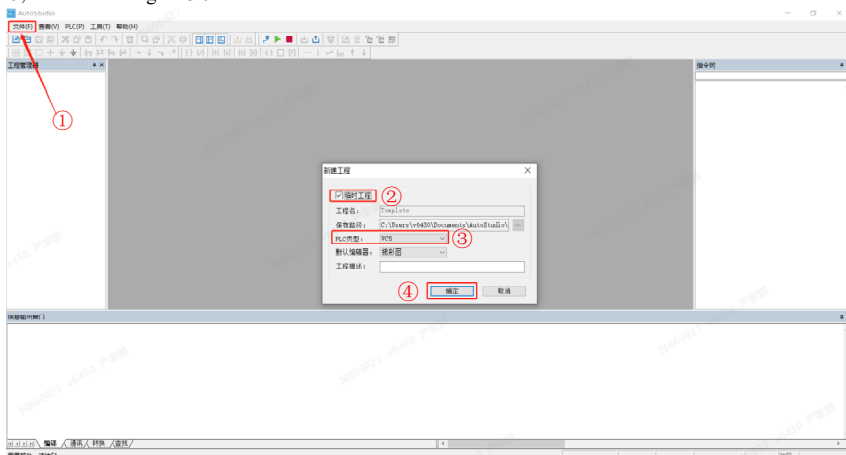

Figure 3-9 VC5 New Project
Step 1: Open the PLC programming software AutoStudio and create a temporary project with PLC type VC5, as shown in Figure 3-9.